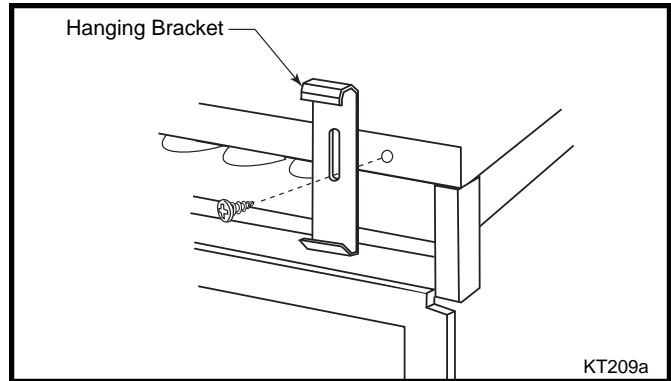

Fig. 50 Hanging bracket alignment.
2. Install the hanging brackets, as shown in Figure 50.